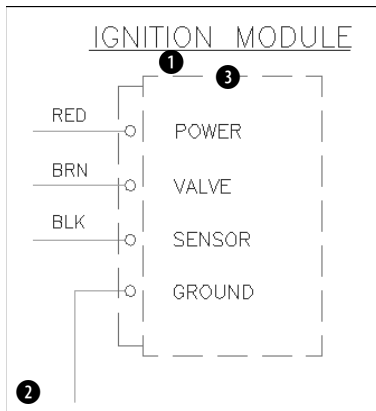

**Figure 13-28:** A section of an electrical schematic.
2. Save the file as **ab13-08.dwg** in your AutoCAD Bible folder. This is a small section of an electrical schematic, as shown in Figure 13-28. Make sure that ORTHO and OSNAP are on, and set running snaps for endpoint, midpoint, and intersection.